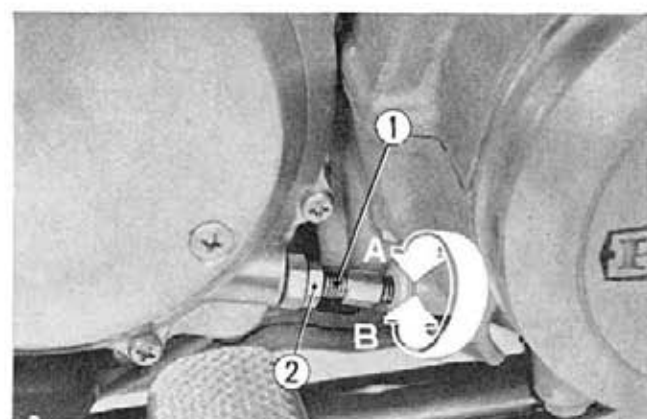

Fig. 19-12 ① Clutch cable adjusting bolt
- b. Turn the clutch cable adjusting bolt located at the clutch housing, in the direction ① to loosen the clutch cable. (Fig. 19-12)
- d. Turn the clutch cable adjusting bolt located at the clutch housing lower right side of the engine in the ② direction so that there is approximately $3/4$ of free play at the clutch lever; then tighten the lock nut. (Fig. 19-12)
- (3) The nominal clutch lever free play is 0.4-1.0 in (10-25 mm) measured at lever end before the clutch starts to disengage.